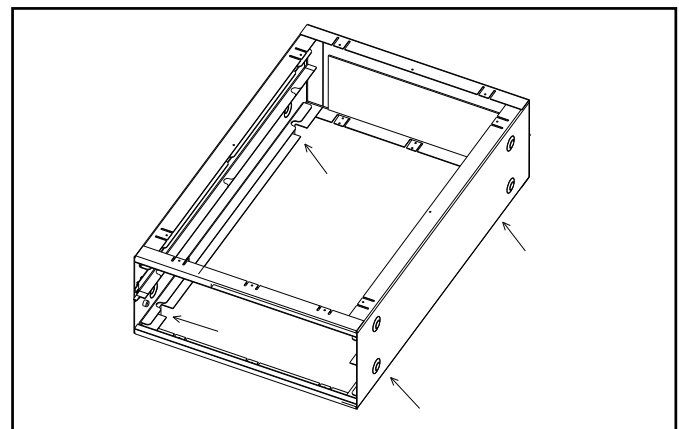

Figure 20 Mounting Tabs
- Bend the 4 mounting tabs down on the two sides of the air cleaner cabinet. These can be used to attach the air cleaner cabinet to the furnace. See Figure 20.